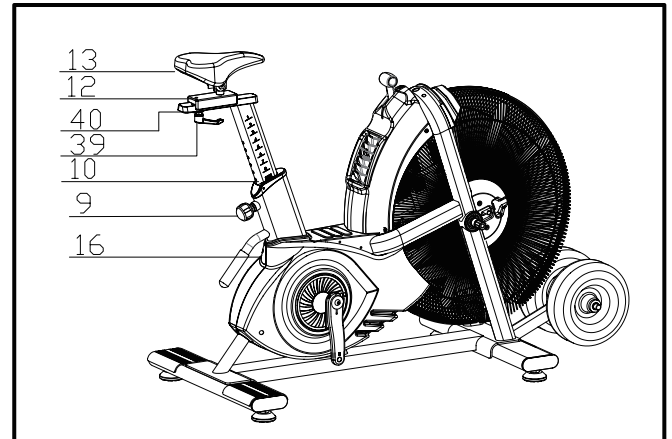

Fig. 2
STEP 2 (FIG. 2):
1. Slide the Seat Post (12) into the Vertical Seat Post (10).
2. Pull the knob (9) to adjust the seat to the desired height, then release the knob and retighten the knurled portion.
3. Attach the Seat (13) to the Seat Post (12) as shown and tighten the screws under the seat to secure it.
2. The device will then enter display standby mode (as shown in Figure 2), with icons appearing sequentially from top to bottom.
(FIG 2)